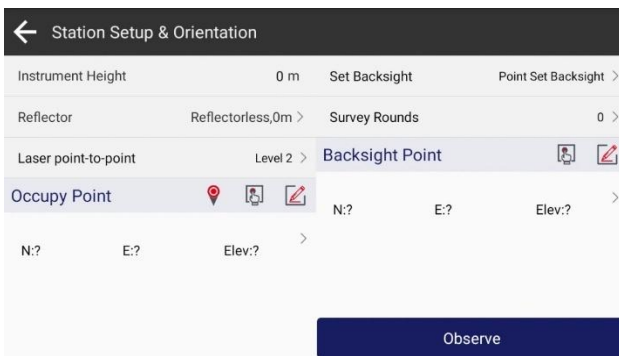

Figure 3.2-1
1. Point Set Backsight, as shown in Figure 3.2-1, 3.2-2. Set a known backsight point, and then observe the backsight point, obtain the angle and distance of device to the known backsight point, Surpro 6.0 will calculate the angle difference as well as the distance difference and height difference from the device towards the known backsight point itself. Determine whether there is a possibility of aiming error based on the distance difference and height difference, and set the angle difference to the device. At the same time, the scale correction factor can be calculated based on the distance, which can be used to correct the distance measured by the total station.